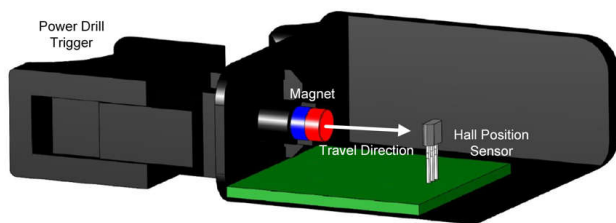

Figure 1. Head-on Configuration in a Power Drill Trigger
A robust contactless method for measuring linear position can be implemented using a magnet and a linear Hall position sensor that are arranged in a head-on configuration, as shown in Figure 1. In this approach, a magnet is placed on the moving component so that the magnet moves along with the component. The linear Hall position sensor senses the resulting magnetic flux density from the magnet.
An example moving component that requires linear position measurement is the variable speed trigger in power tools or other appliances, which measures how far the trigger is pressed and translates it into the operating speed of the tool. Figure 1 specifically shows an example of the placement of a cylinder magnet and Hall position sensor for a cordless power drill that uses a head-on configuration for translating how far the trigger is pressed into the speed of the drill. For this example, the magnet is closest to the Hall position sensor when the trigger is fully pressed and it is furthest when the trigger is unpressed. Using a similar approach to Figure 1, the head-on configuration can also be used for level or pressure sensing in washers and dryers and object or wall detection in a robotic vacuum.
- **In-plane versus Out-of-Plane Field Direction:** In-plane 1D position sensors are sensitive to application of the magnet pole in the same plane as the die, similar to the application of the X- or Y-axis magnets shown in Figure 3. Out-of-plane 1D position sensors are sensitive to the magnetic field component that is perpendicular to the die inside the package. The Z-axis magnet in Figure 3 shows the out-of-plane orientation for a SOT23 surface mount package while Figure 1 shows the out-of-plane orientation for a TO-92 through-hole package. 3D Hall position sensors are sensitive to the magnetic field component in X, Y, and Z directions. The X and Y fields are in plane with the package while the Z field is perpendicular (out of plane) to the top of the package, as shown in Figure 3.